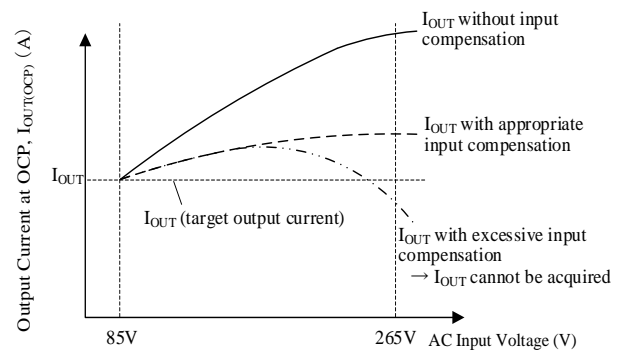

Figure 9-22. AC Input Voltage vs. Output Current at OCP (with or without OCP Input Compensation Function)
The IC has the input compensation function that compensates the Overcurrent Detection Threshold Voltage, V_{OCP} , according to AC input voltages. In an application using a quasi-resonant converter with universal input (85 VAC to 265 VAC), the peak drain current of the power MOSFET decreases due to a higher operation frequency caused by an increased input voltage under a condition of constant output power. When the overcurrent detection threshold voltage is fixed and adjusted with the maximum load taken into consideration, the higher the $I_{OUT(OCP)}$, the higher the AC input voltage as shown in “without OCP input compensation” in Figure 9-22.
V_{ROCP}' reduces the difference in $I_{OUT(OCP)}$ at the maximum and minimum AC input voltage range so that $I_{OUT(OCP)}$ at the maximum AC input voltage is adjusted to the target current, I_{OUT} or higher as shown in Figure 9-22.
$I_{DP(OCP)}$ in the maximum AC input voltage should be set to the drain current where the output current is equal to “ I_{OUT} with appropriate input compensation” in Figure 9-22.
- 4) In the maximum AC input voltage (265 VAC) condition, measure the drain current, $I_{DP(OCP)}$, when the output current, $I_{OUT(OCP)}$, becomes the “ I_{OUT} with appropriate input compensation” in Figure 9-22.
- 6) Confirm that the output current during OCP operation, $I_{OUT(OCP)}$, is similar to “ I_{OUT} with appropriate input compensation” in Figure 9-22, in an actual operation throughout AC input voltage ranges with the constants set in 5). If $I_{OUT(OCP)}$ is not appropriate, be sure to adjust the constants of DZ_{X1} and R_{X1} by changing the compensation startup voltage, $V_{IN(OCP_ST)}$.